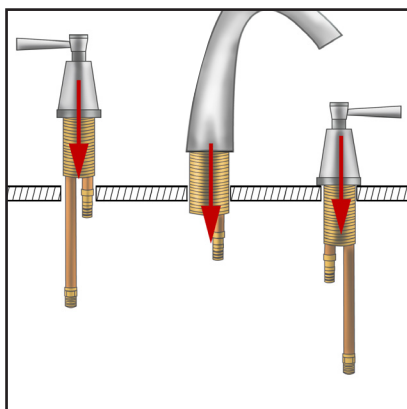

Figure 2
**2.** Place the faucet body in the middle hole of the deck/sink. Then place the handles into the remaining holes of the deck/sink. Make sure the handle with the cold water label is placed in the hole on the right and the handle with the hot water label is placed in the left hole (**Figure 2**). A standard 1-3/8" hole is required for this faucet.